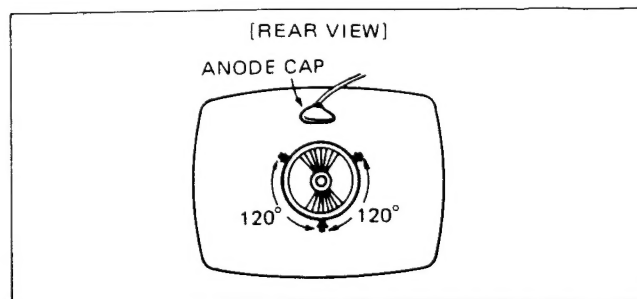

Fig. 5-12
9. Insert three wedges to the position as shown in Fig. 5-12, to obtain the best circumference convergence.